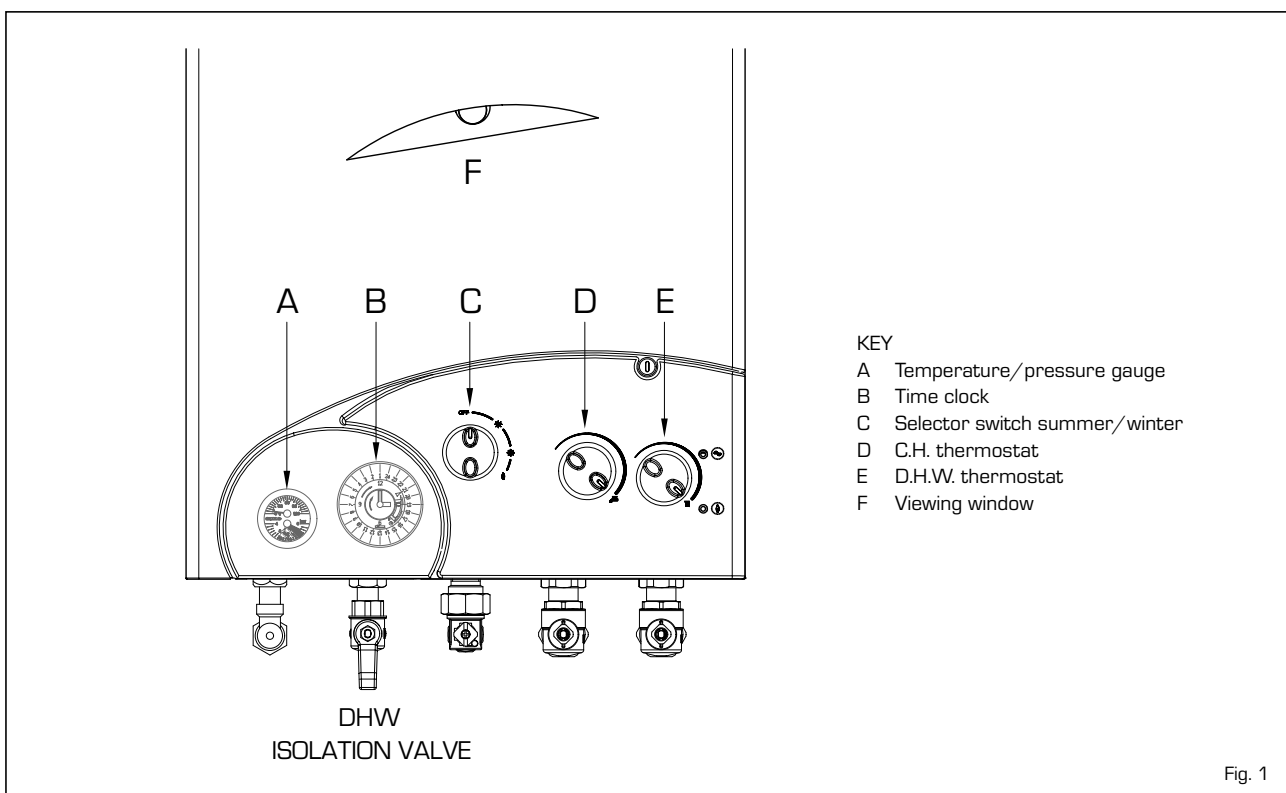

Fig. 1
1.3.1 To light the appliance (see fig. 1)
- Turn the selector switch summer/winter (C) to SUMMER (water only) position "☼".
- Switch on the electricity supply and full open any D.H.W. tap. The burner will light. Check that the burner has lit by looking through the viewing window (F). If the burner fails to light, turn the selector switch summer/winter to "☾" position and release it immediately; then turn it to the SUMMER position: the burner should now light. Turn off the tap.
- Check that the room thermostat and time clock are calling for heat. Turn the heating potentiometer (D) to maximum (fully clockwise).
1.3.2 To turn the appliance off (see fig. 1)
The gauge (A fig. 1) on the fascia panel indicates the approximate system pressure. If the normal running pressure is seen to decrease over a period of time there is a water leak and you should consult your installer or service engineer.